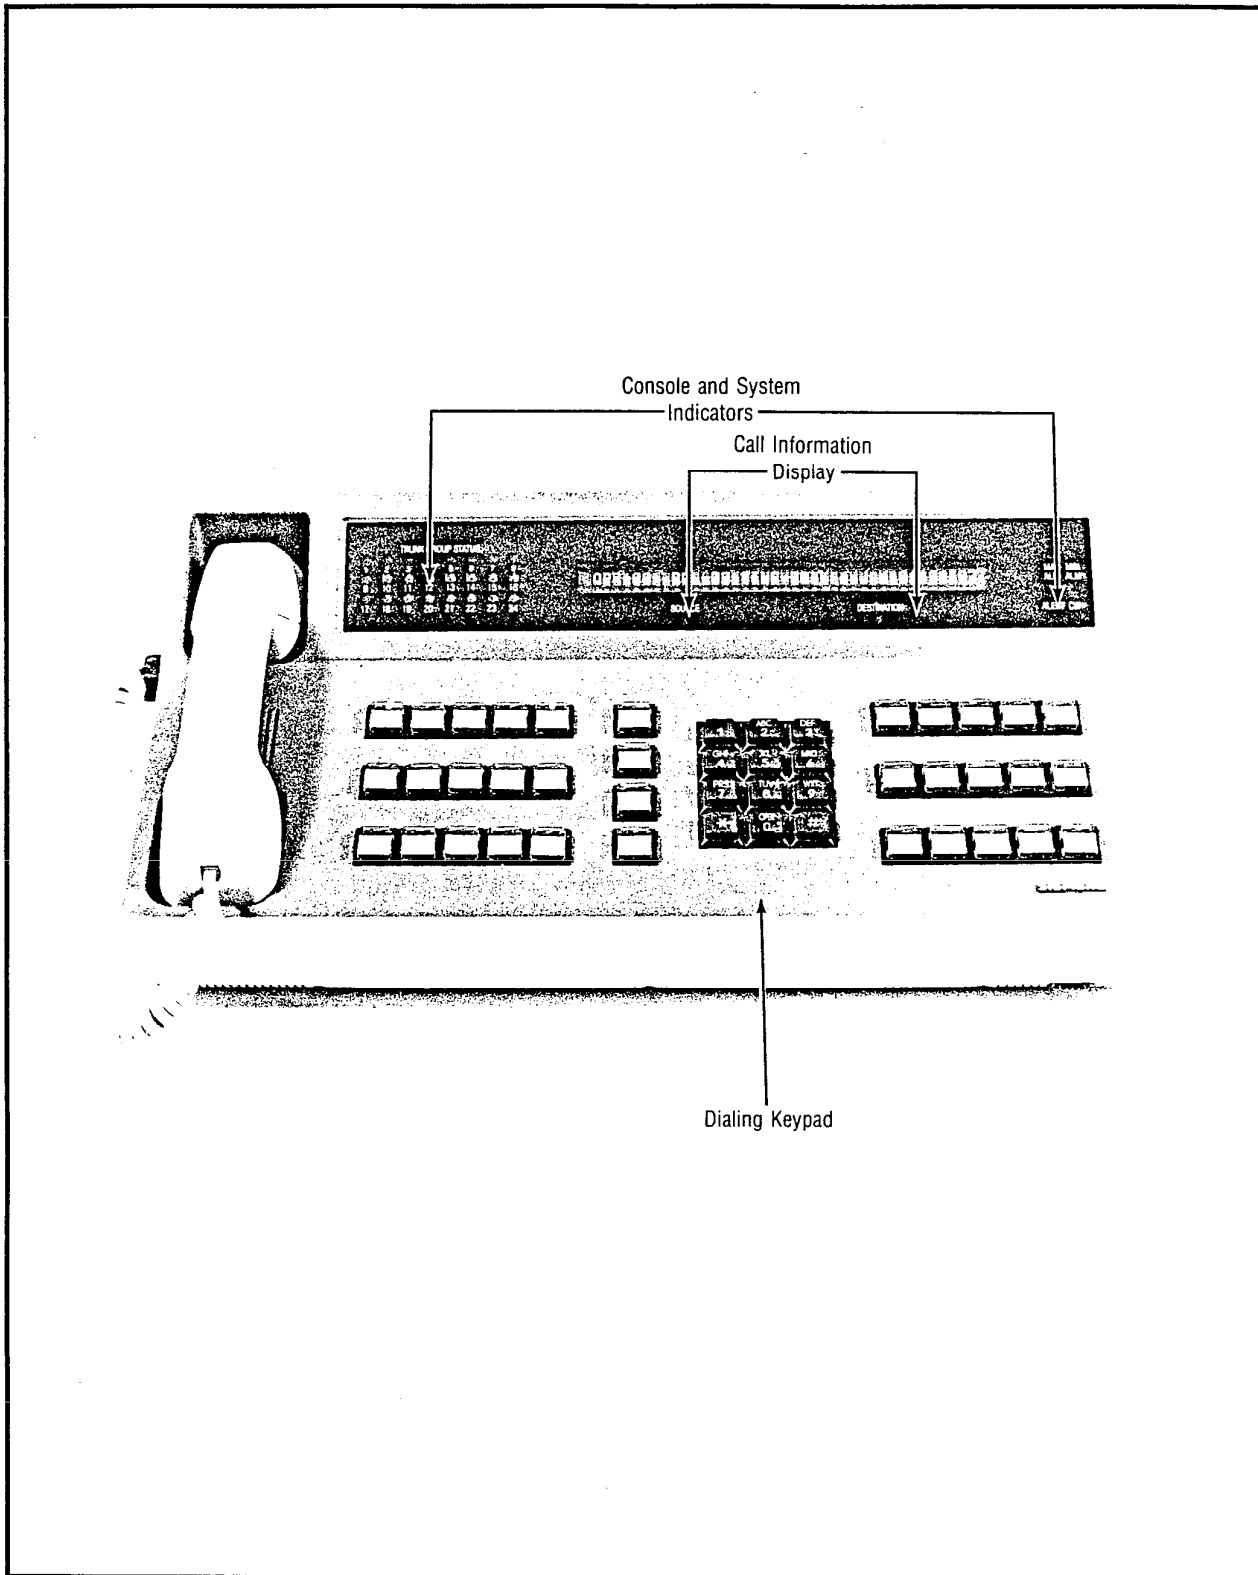

Figure 3.00 Console and System Indicators, Call Information Display, and Dialing Keypad
**3.01 General.** Figure 3.00 shows a typical console layout of the standard factory-assigned controls and indicators. The illustrated controls and indicators are described in the following subparagraphs according to their categorization.
**3.02 Console and System Indicators.** The Console and System Indicators, shown in Figure 3.00, are used to monitor system and console conditions. The indicators are described below according to their classification.
**3.03 Call Information Display.** The Call Information Display, shown in Figure 3.00, provides visual information on calls, as well as pertinent system conditions. This visual information is accomplished via a single 40-character alphanumeric display unit with two associated LED indicators, SOURCE and DESTINATION. The Call Information Display shows the following information:
**3.05 Dialing Keypad.** The Dialing Keypad, shown in Figure 3.00, is a digital 12-button keypad containing the digits 0 through 9 and the symbols \* and #. The Dialing Keypad is used to dial internal station numbers, outside telephone numbers, and customer-assigned feature access codes.